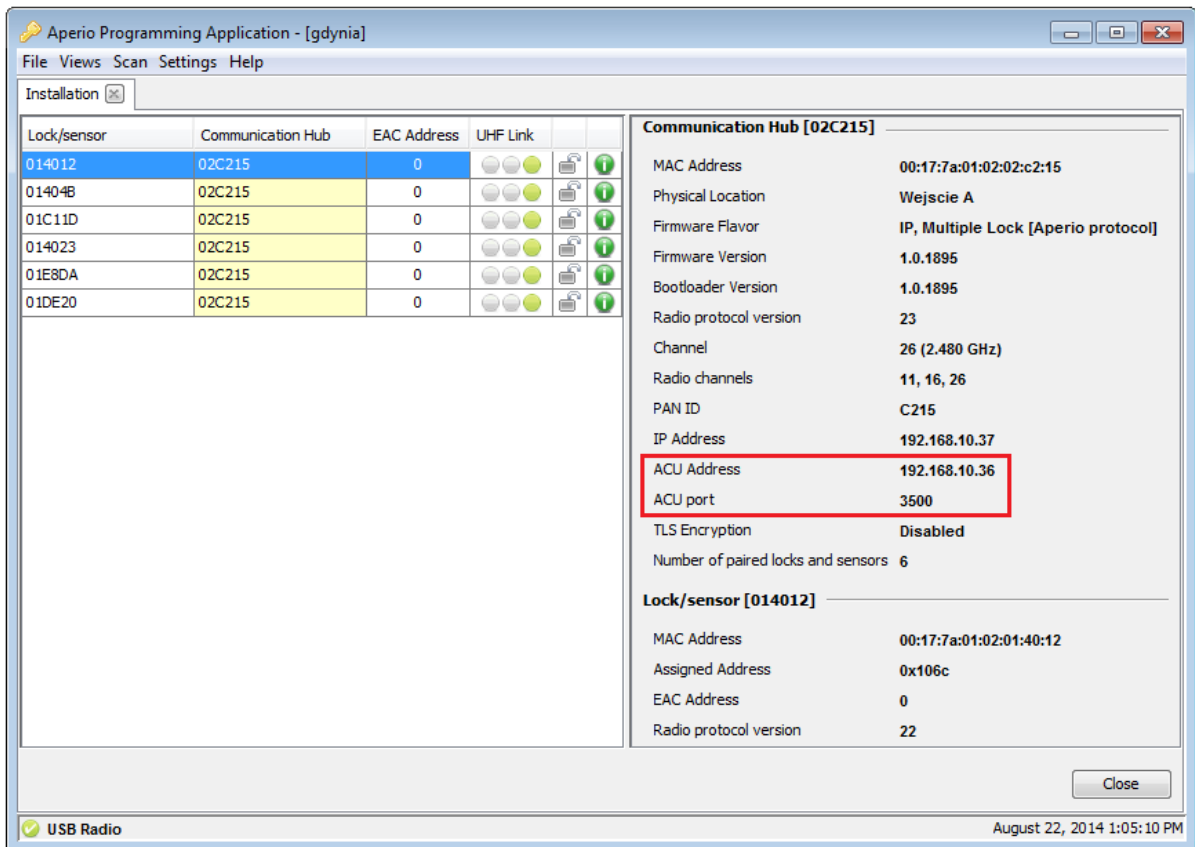
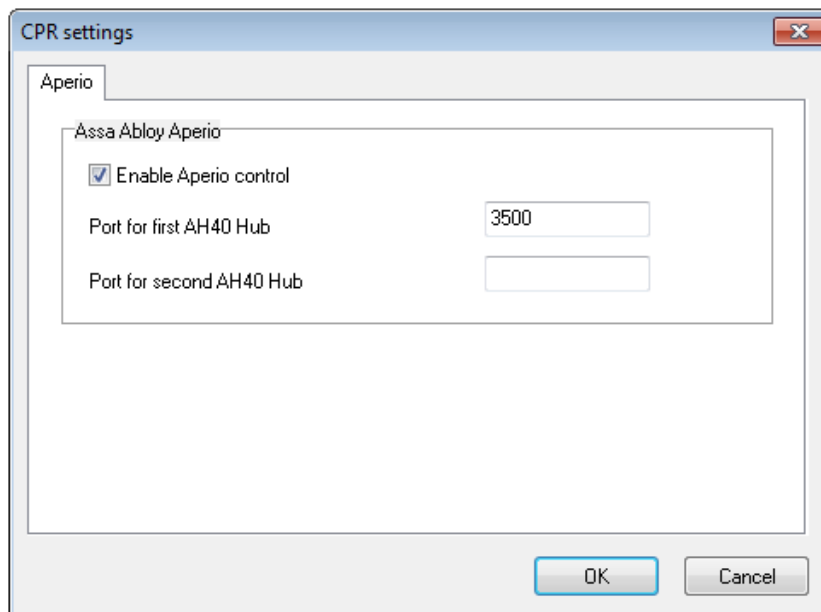

Fig. 2 Aperio Programming Application
Fig. 5 APERIO integration window in PR Master
During configuration of hub it is particularly necessary to enter ACU address which is CPR32-NET address and define ACU port which shall be later entered in PR Master software – see fig. 2. Pair of AH-40 hubs can be associated with particular CPR32-NET network controller but they require individual ports. TLS encryption must be disabled.
9. In the next window (see fig. 5) activate the option **Enable Aperio control** and enter Aperio hub ports (i.e. ACU ports from fig. 2).